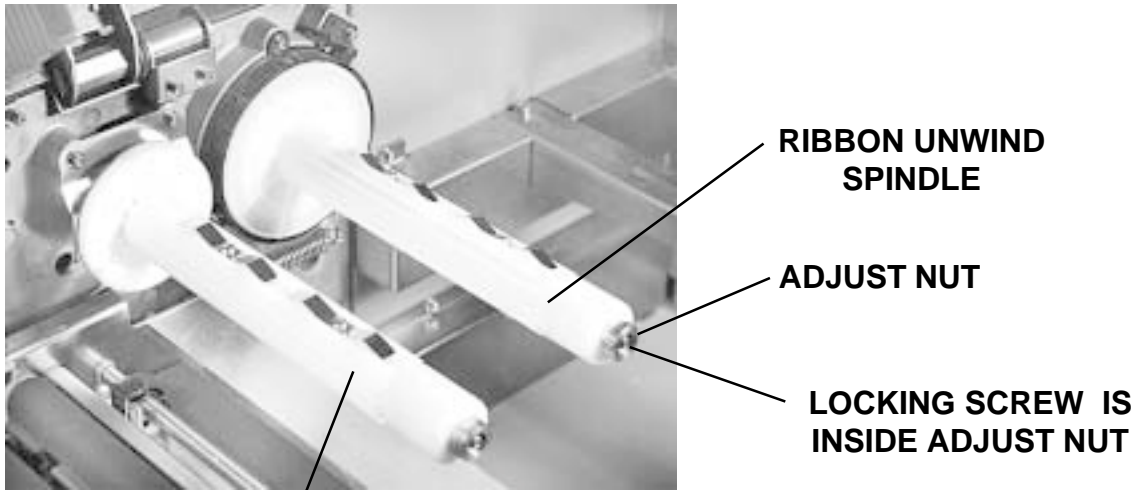

Fig. 5-2
3.	Attach string to an empty ribbon core and place on the Ribbon Unwind Spindle. Wind the string tightly around the ribbon core in a single layer and in a clockwise direction. Attach the free end of the string to the tension gauge. Fig. 5-2 & 5-3
4.	Gradually lift the tension gauge, pulling the string to unwind it from the core. Once the spindle begins to move, the gauge should indicate 450 to 550 grams of tension. Excessive or insufficient tension must be corrected by adjusting the Ribbon Unwind Clutch. Fig. 5-2 & 5-3
3.	Attach string to an empty ribbon core and place on the Ribbon Rewind Spindle. Wind the string tightly around the ribbon core in a single layer and in a clockwise direction. Attach the free end of the string to the tension gauge. Fig. 5-2 & 5-4
4.	Gradually lift the tension gauge, pulling the string to unwind it from the core. Once the spindle begins to move the gauge should indicate 950 to 1050 grams of tension. Excessive or insufficient tension must be corrected by adjusting the ribbon unwind clutch. Fig. 5-2 & 5-4